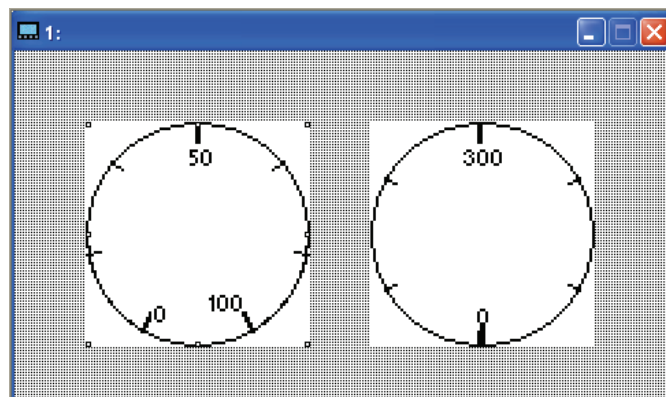

Figure 1-84
Step 3. Style could be 300 Degrees or 360 Degrees. It indicates that a circle could be 300 degrees or 360 degrees (Figure 1-84).